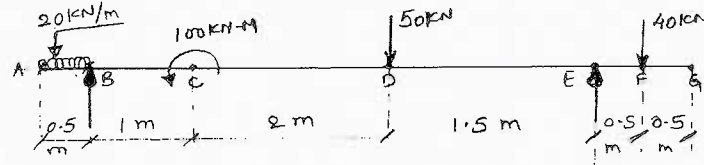

Fig.Q4(b) (14 Marks)
- b. Draw shear force and bending moment diagram for the beam loaded as shown in Fig.Q4(b). Also locate the points of contra flexure. (14 Marks)